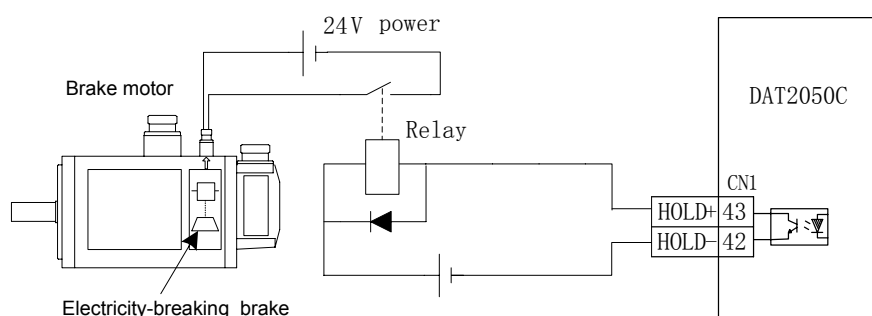

Fig. 6-3 Typical example of HOLD± brake releasing signal
1. Correctly wire according to fig.6-3, and note the prerequisite connection of essential input signal in the following chart.
Figure 6-3 shows the wiring theory of practical application of brake releasing signal controlling brake servo. Users offer 24V power and pay attention to the polarity of leading power when